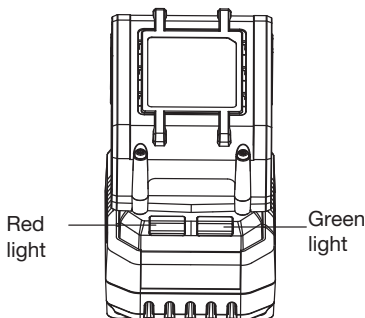

Figure 5
5. CHARGING THE BATTERY PACK (NOT SUPPLIED) (SEE FIG. 5)